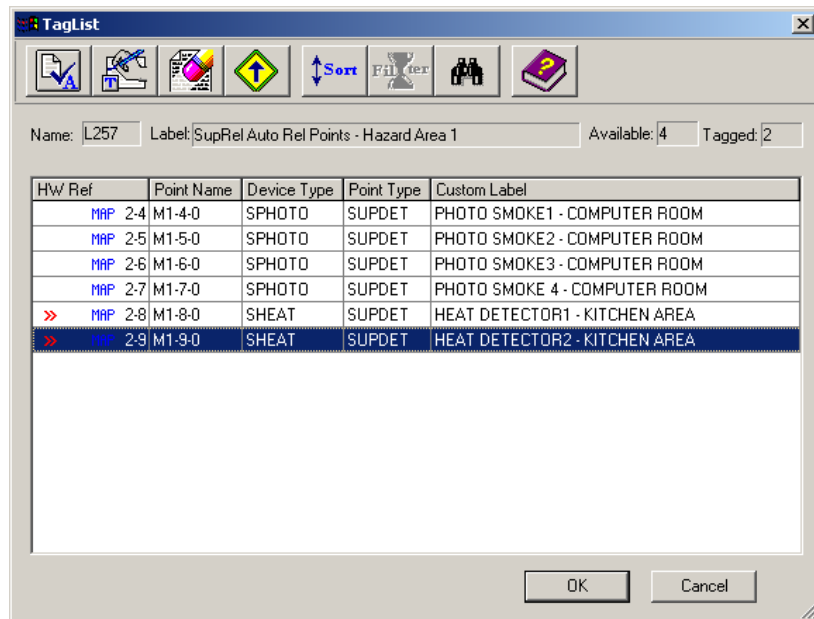

Figure 16-8. Tagging Points
1. Click on the button corresponding to the type of suppression points you want to select. The Tag List screen shown in Figure 16-8 appears.